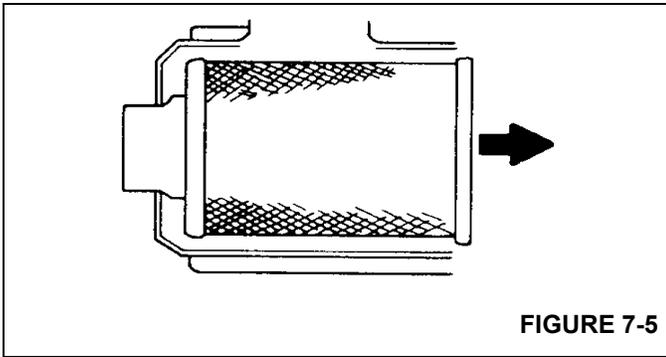

FIGURE 7-5
- b. **AVOID DISLODGING DUST FROM THE FILTER.** Gently pull the filter (Figure 7-5) off the outlet tube and out of the housing. Avoid knocking the filter against the housing.